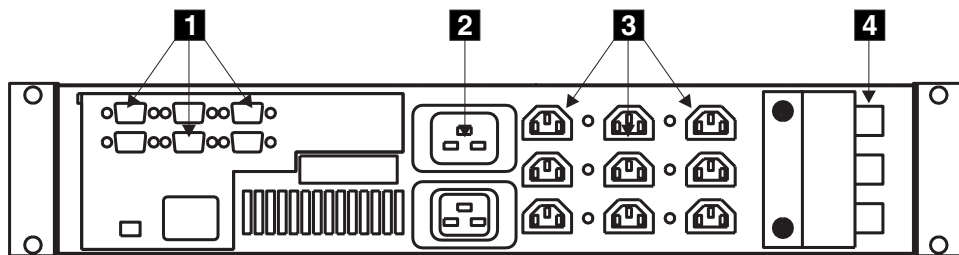

Figure 109. Uninterruptible power supply (rear view)
4. Disconnect the main power cable **2**. See Figure 109.